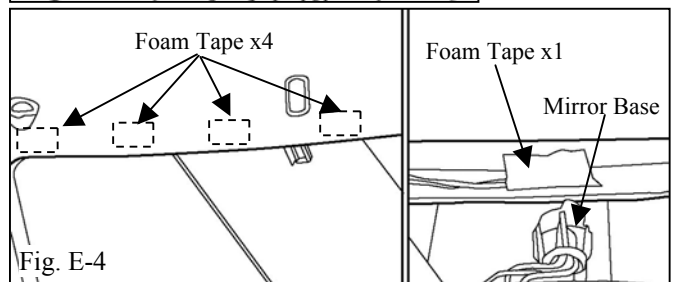

Fig. E-4
7. Apply foam tape to headliner (windshield header for convertible) in four (4) places as shown. (Fig. E-4)